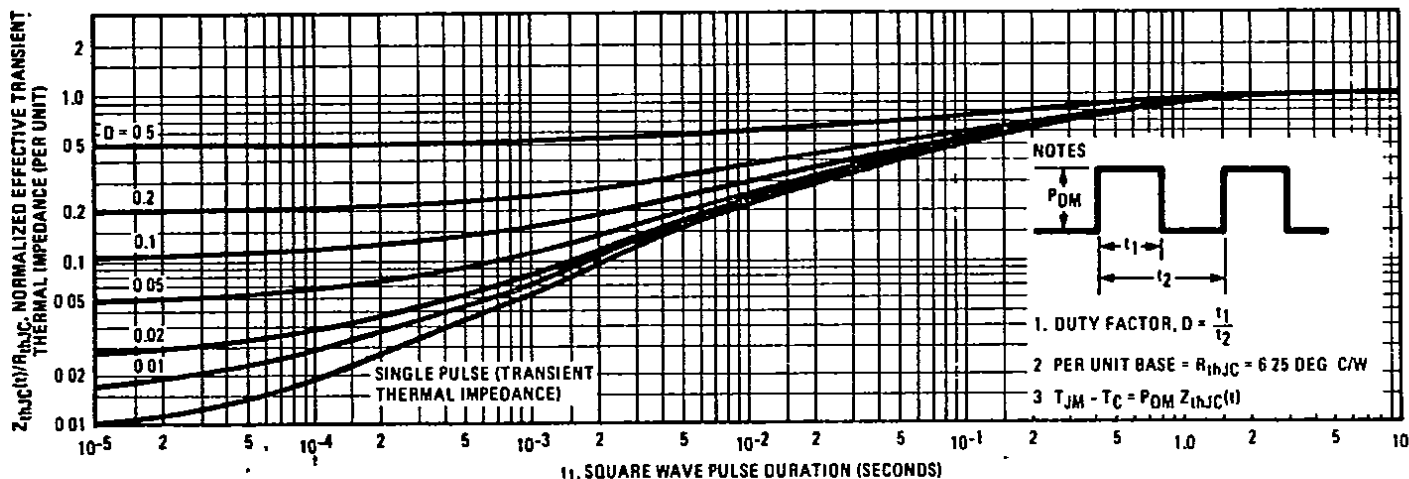

Fig. 5 - Maximum Effective Transient Thermal Impedance, Junction-to-Case Vs. Pulse Duration
① T_J = 25°C to 150°C.
② Pulse Test: Pulse width ≤ 300μs, Duty Cycle ≤ 2%
③ Repetitive Rating: Pulse width limited by max. junction temperature. See Transient Thermal Impedance Curve (Fig. 5).